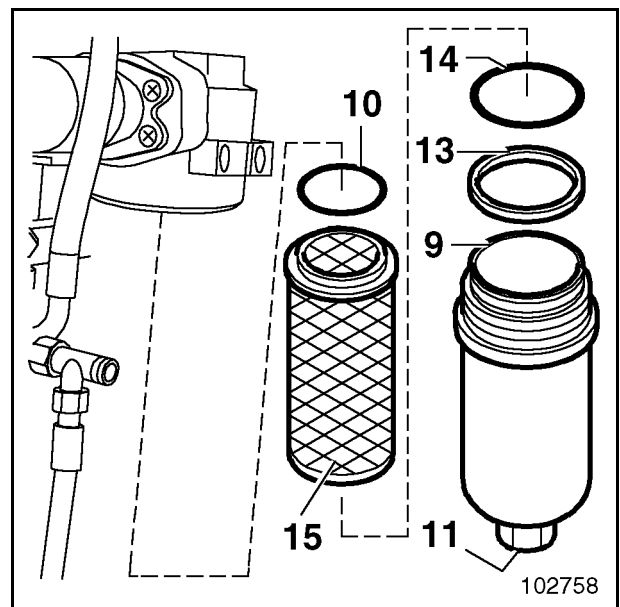

Fig. 3-83:
- Unscrew drain plug (11, Fig. 3-83:) and drain the hydraulic oil from the filter housing (9).
- Remove filter housing (9).
- Withdraw filter element (15) from filter housing (9).
- Clean filter housing (9) and sealing faces at filter head with white spirit or paraffin oil.
- Insert new filter element into filter housing (9) and refit to filter head with a new, lightly oiled sealing ring (14).
- Install new filter element (15, Fig. 3-83:) and re-assemble with a new, lightly oiled sealing ring (14).